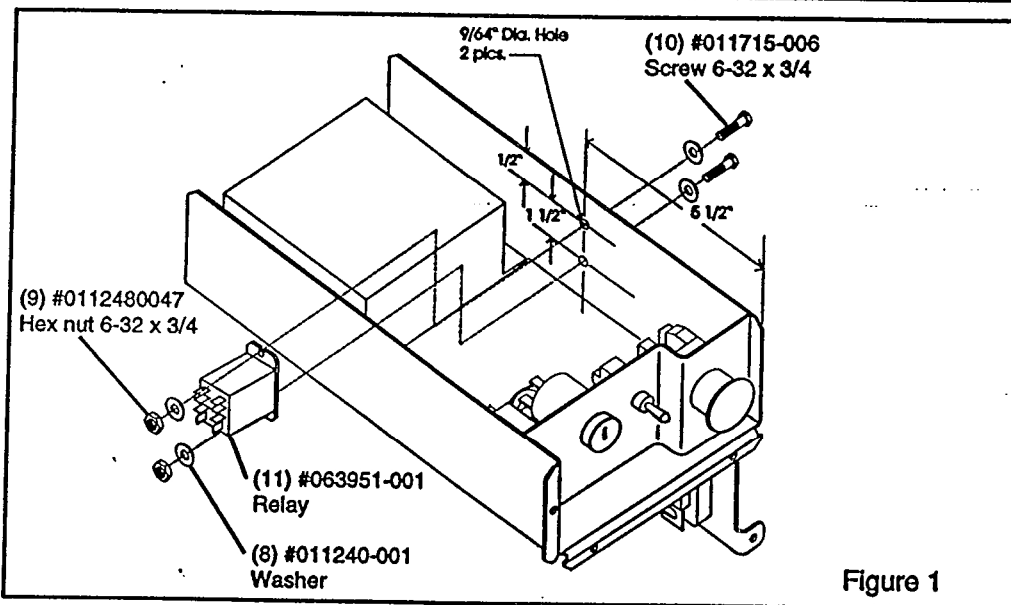

Figure 1
PROCEDURE: Read all instructions thoroughly and refer to figures 1 through 5 before starting.
PROCEDURE: (Continued) Read all instructions thoroughly and refer to figures 1 through 5 before starting.
8. Fix the supplied relay (#063951-001) to the side of the tray using two 6-32 x 3/4" screws (#01175-006), two 6-32 x 3/4" hex nuts (#011248-047), and four washers (#011240-001). Drill one 9/64" diameter holes 5 1/2" from the side of the module and 1/2" down from the top of the module. Drill another 9/64" diameter hole 1 1/2" below the first hole. Figure 1.
Procedure: Read all instructions thoroughly and refer to figures 1 through 5 before starting.